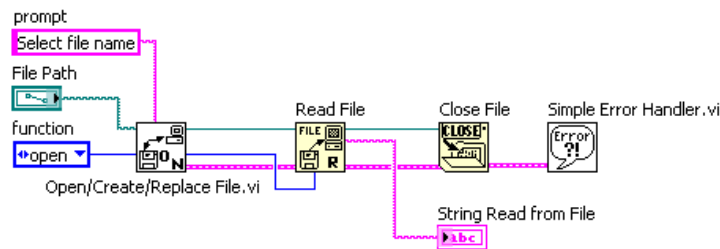

Figure 9.18
1. Build the block diagram shown in Figure 9.18.
- (e) Complete the block diagram as shown in Figure 9.18.